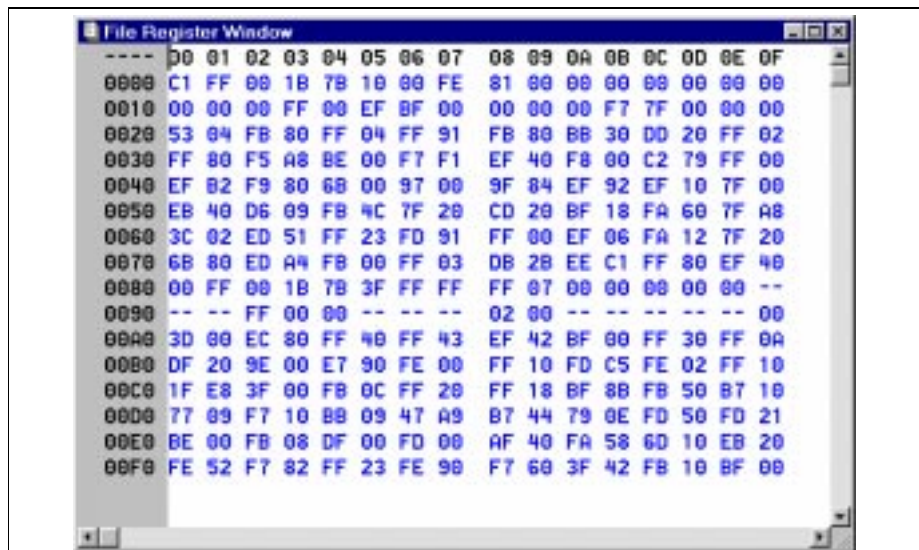

Figure 5.14: File Register Window – Hex Display
- **Hex Display** – This displays the file registers as hex data (Figure 5.14).